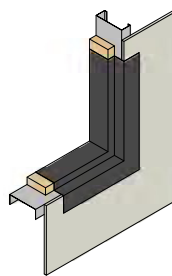

Figure 10
3. Extend the flashing membrane throughout the rough opening and minimum 4-inches onto the face of the exterior wall, maintaining a 12-30 mil thickness. (See Figure 10 or 14).